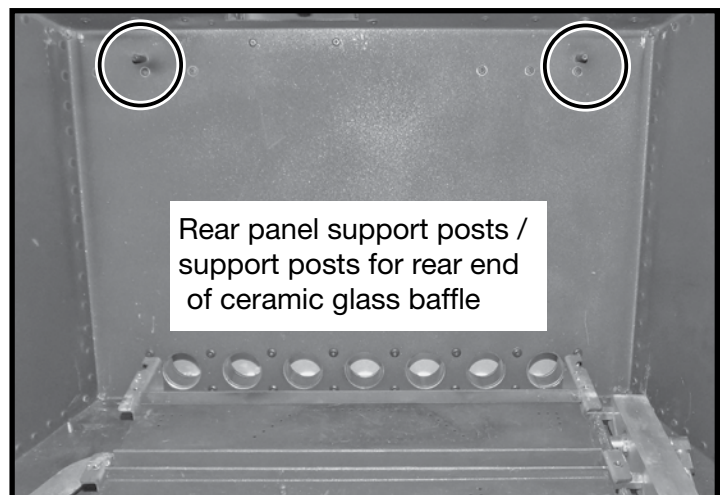

Figure 23: Rear wall showing panel support posts.
1. With the above mentioned support bracket and bolts removed, hang the rear panel onto the posts protruding from the rear wall (Figure 23 and Figure 24).